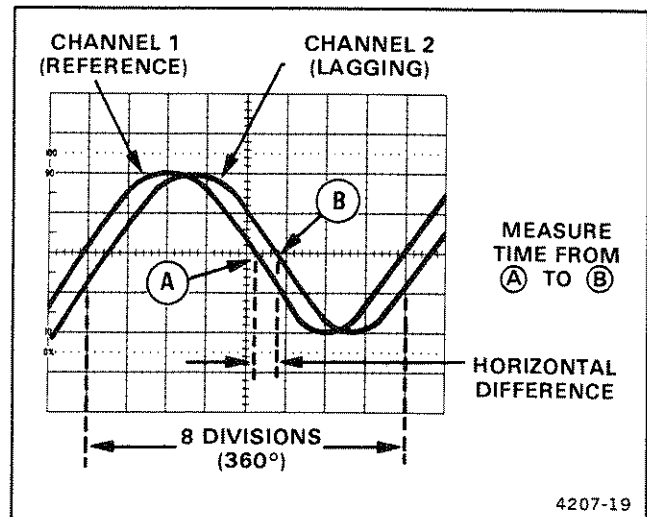
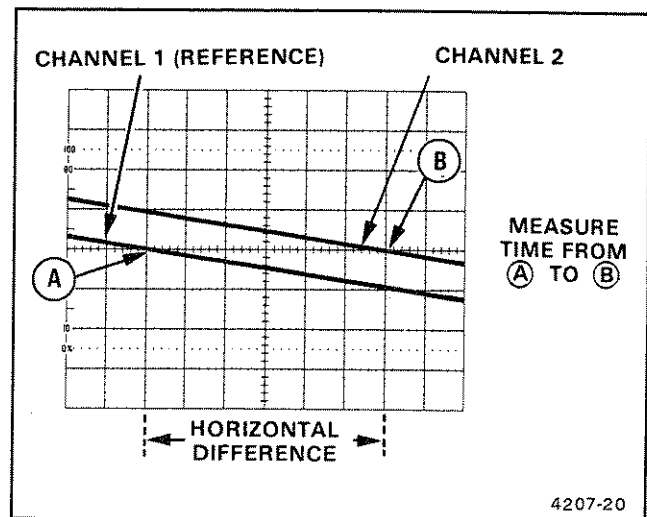

Figure 2-17. Phase difference.
Figure 2-18. High-resolution phase difference.
9. Position the displays and adjust the SEC/DIV Variable control so that one reference-signal cycle occupies exactly 8 horizontal divisions at the 50% rise-time points (see Figure 2-18). Each division of the graticule now represents 45° of the cycle ($360^\circ \div 8$ divisions), and the horizontal calibration can be stated as 45° per division.
Example: The horizontal difference is 0.6 division with a graticule calibration of 45° per division, as shown in Figure 2-17.
EXAMPLE: If the sweep speed were increased 10 times with the magnifier (X10 Magnifier knob out), the magnified horizontal calibration would be $45^\circ/\text{division}$ divided by 10 (or $4.5^\circ/\text{division}$). Figure 2-18 shows the same signals illustrated in Figure 2-17, but magnifying the displays results in a horizontal difference of 6 divisions between the two signals.